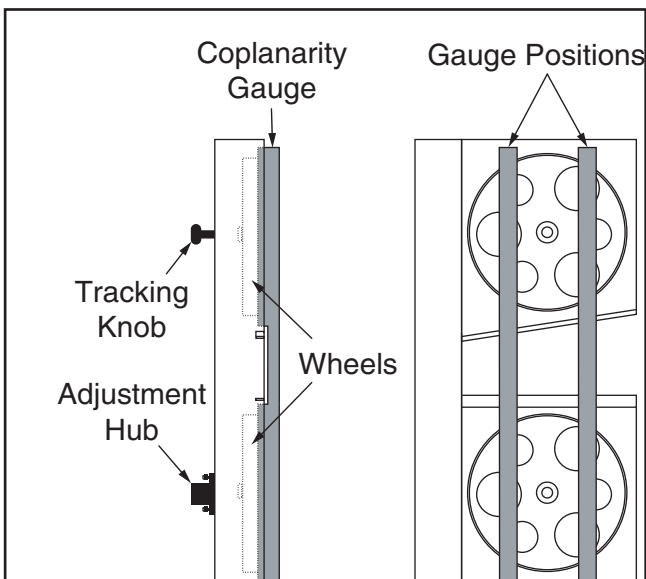

Figure 64. Checking for coplanarity.
- Place your coplanarity gauge up against both wheels in the positions shown in **Figure 64**.